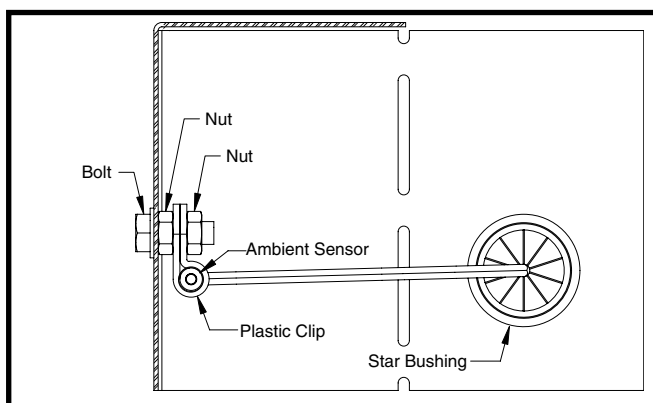

Figure 8. Ambient Sensor Mounting
2. Remove star bushing from 7/8" hole in corner panel of the unit. See Figure 8 (page 17).